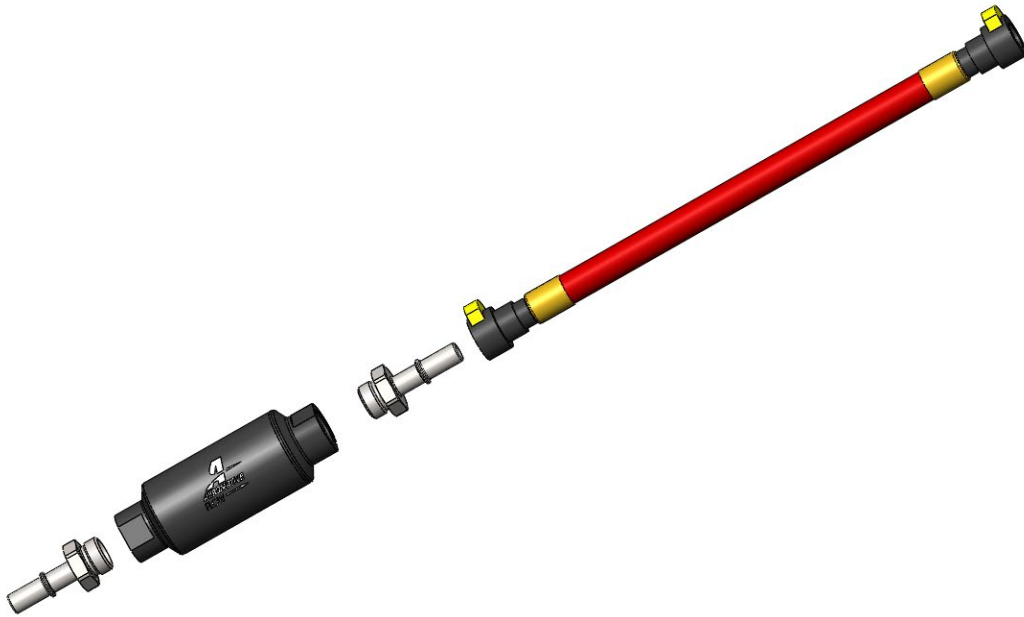

FIGURE 1-5
7. Assemble the 12" section of suction line with the included filter fittings (make sure fitting have o-rings installed on them). **FIGURE 1-5**